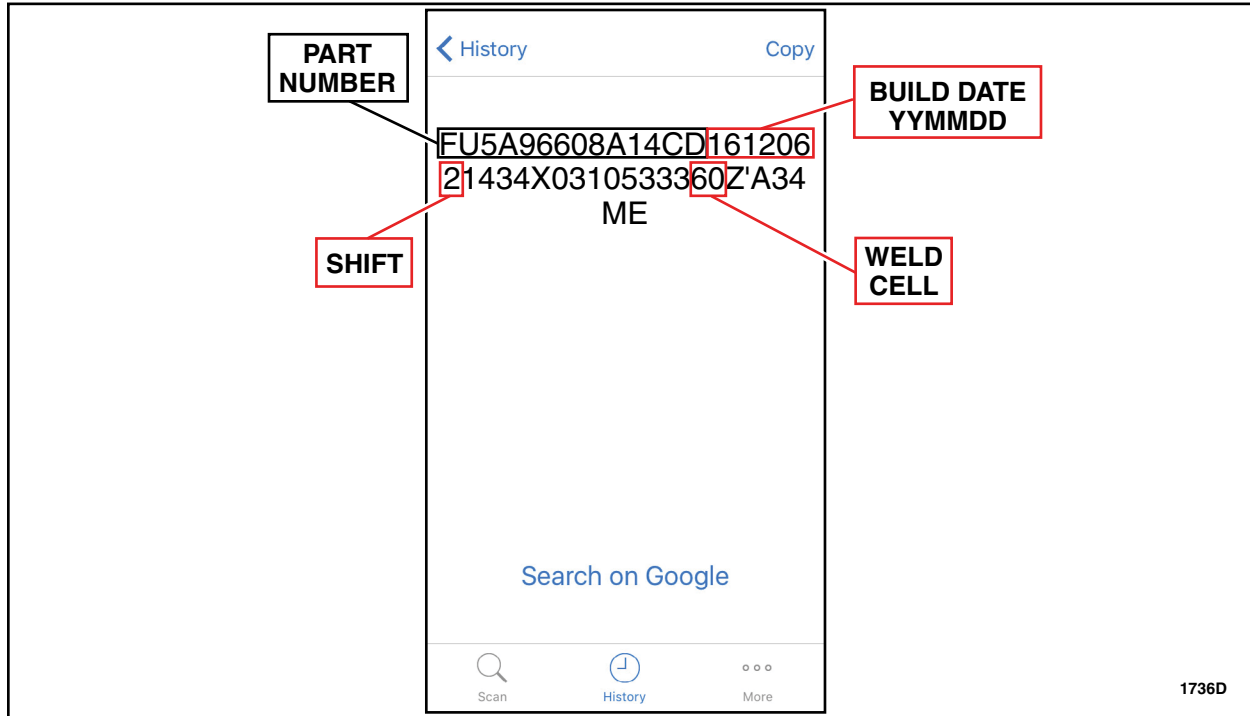

FIGURE 12
- The build date code will be listed in YYMMDD format after the fourteen character engineering part number. See Figure 12.